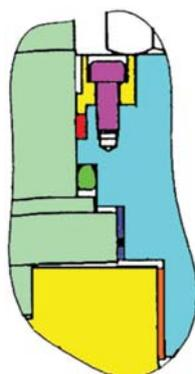

Figure 23.
As illustrated in Figure 23 there were no lubricant fittings in the stem seal area and there was one O-ring (green) under the bonnet and one graphite packing (red) above the bonnet under the yellow packing retainer. Preparing for this job there were several facts to consider:
5. No lubricant fitting to the stem packings, Figure 23.